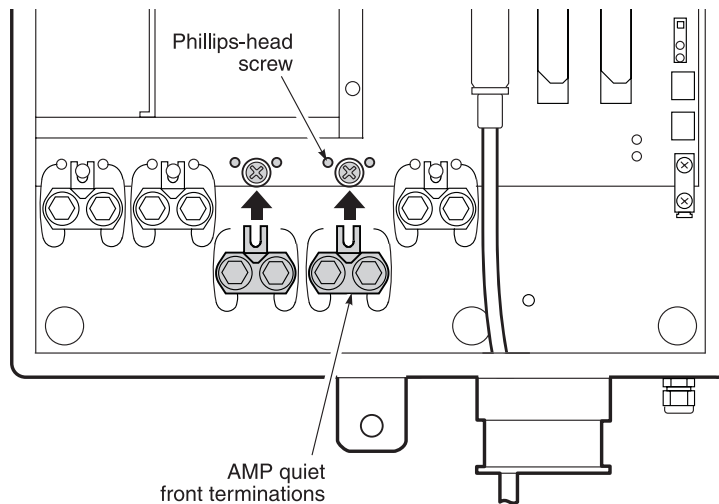

Figure 19. *Installing Power Pair Terminations*
- 1 Install the two AMP Quiet Front terminations into the FRE-765 (see Figure 19):